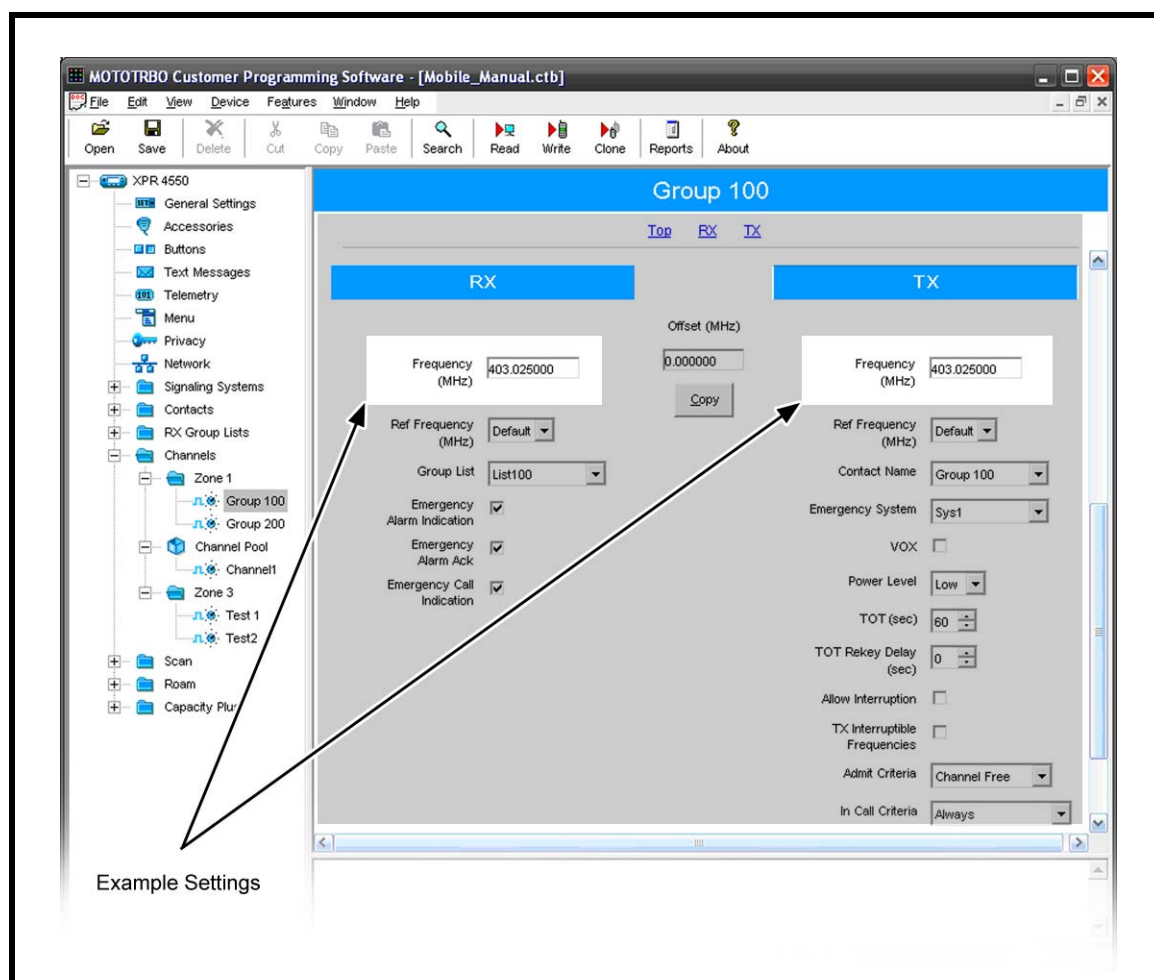

FIGURE 15. Channels Window, RX and TX—MOTOTRBO
The **Channels** window, shown in Figure 15, is used to configure the acknowledgement channel for digital emergency calls. At least one (1) acknowledgement channel must be configured in this window to send digital emergency calls. The settings on this window are optional for a mobile or portable radio interfacing with an MTRBi. Other settings may be required for your specific installation.